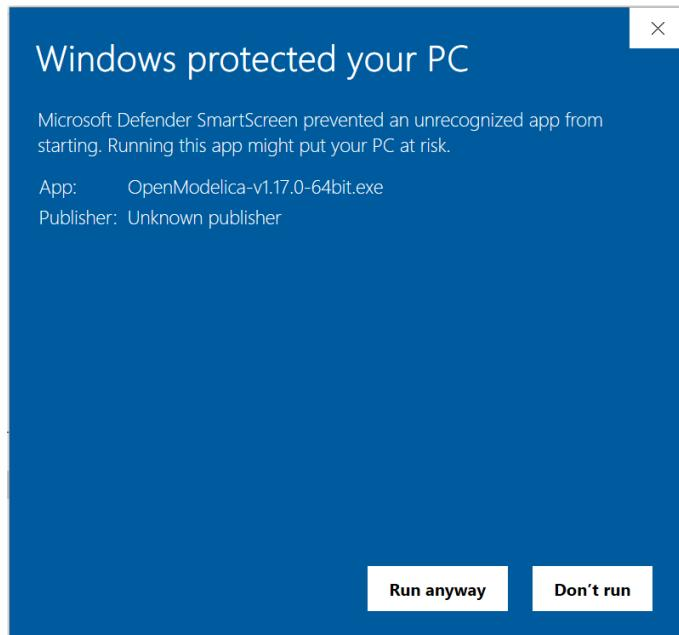

Figure 3.34: Allowing Microsoft Defender to run the executable file
5. Locate the executable file and double-click on it to begin the installation. After double-clicking on the executable file, you might get an alert on your screen (something like Windows protected your PC). If this happens, locate More info in this alert window and click on Run Anyway, as shown in Fig. 3.34 to continue with the installation. All the default parameters of the installation are acceptable.